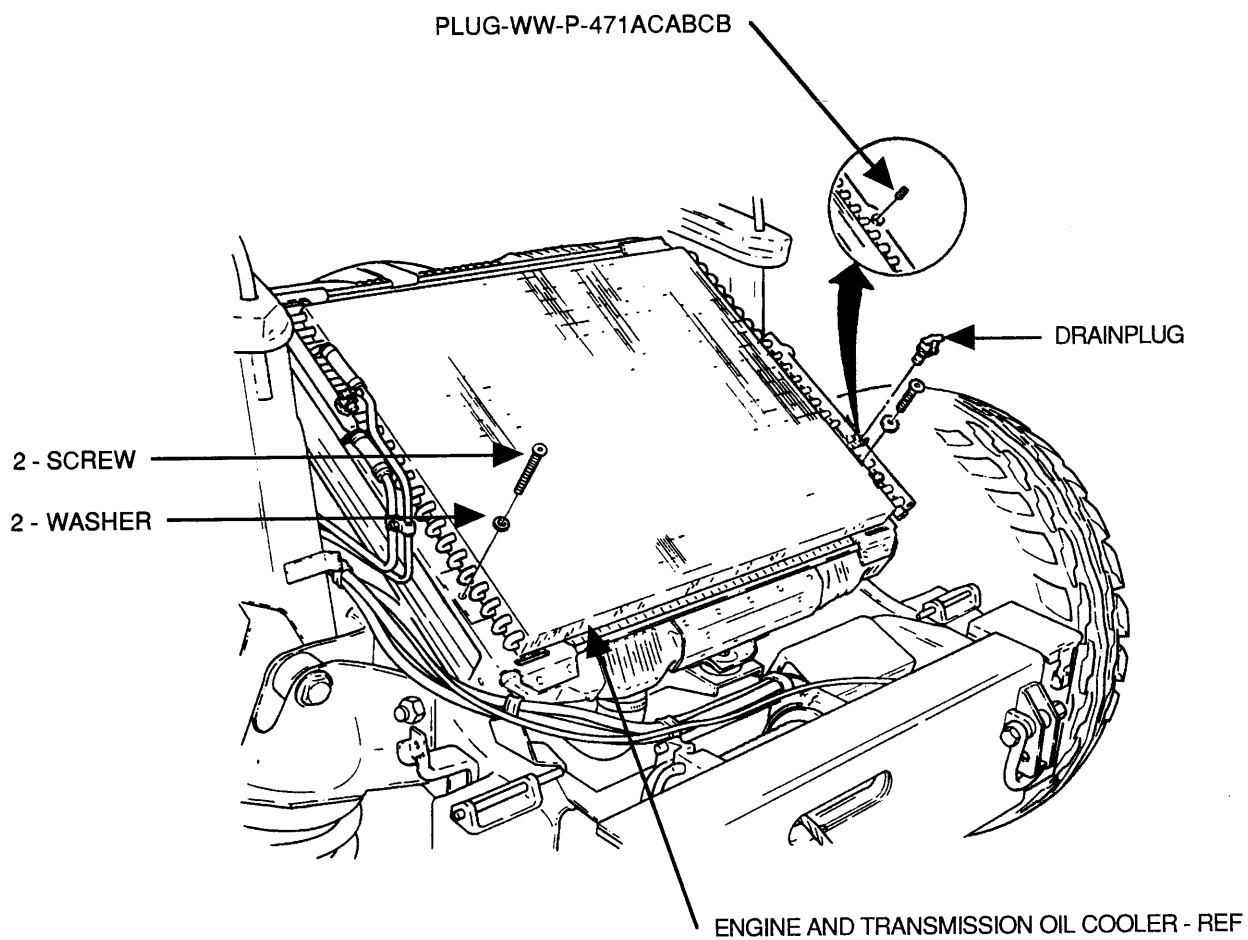

FIGURE 1
- (1) Disconnect battery ground cable. (Refer to TM 9-2320-280-20.)
- (2) Remove hood. (Refer to TM 9-2320-280-20.)
- (3) Remove left side splash shield. (Refer to TM 9-2320-280-20.)
- (4) Remove drainplug from oil cooler as shown in figure 1.
- (5) Install WW-P-471ACABCB plug in oil cooler as shown in figure 1.
- (6) Remove two lower screws and washers from oil cooler as shown in figure 1.